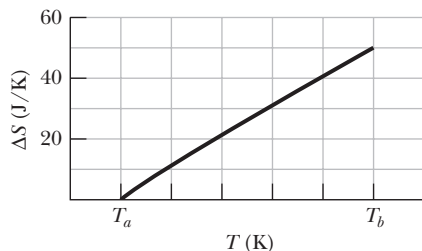

Fig. 20-22 Problem 10.
•10 A 364 g block is put in contact with a thermal reservoir. The block is initially at a lower temperature than the reservoir. Assume that the consequent transfer of energy as heat from the reservoir to the block is reversible. Figure 20-22 gives the change